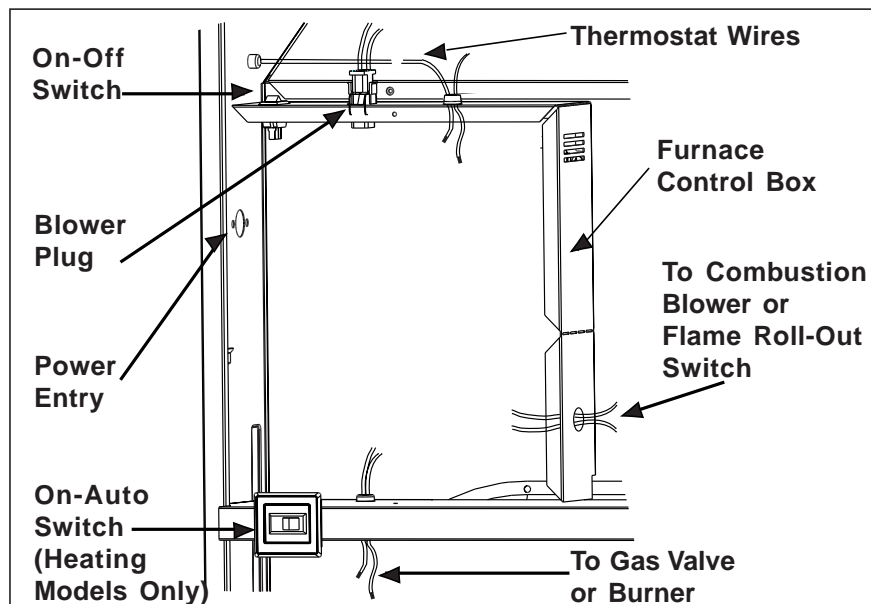

Figure 25. Control Panel (All Models)
- b. Insert 115 volt wires through the strain relief on the left side of the furnace control box (see Figure 25).
- b. Connect the thermostat wires to the furnace low voltage pigtails (see Figure 25).